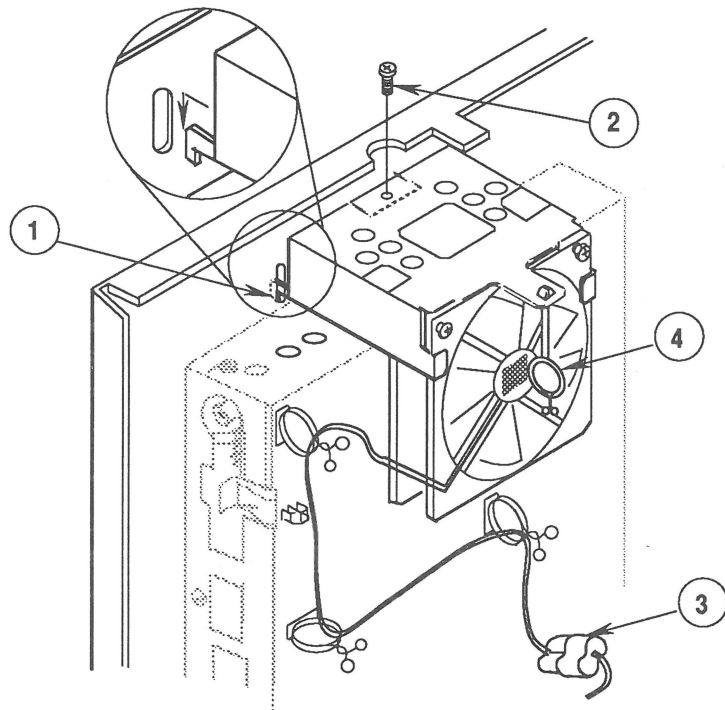

FIGURE 17
2. Replace the fan mounting bracket on the chassis. To do this, insert the two bracket tabs (Figure 17, #1) into the two slots in the chassis, and replace the screw (Figure 17, #2).
3. Reconnect the fan wires at the fan connectors (Figure 17, #3).
4. Replace the fan wires in three cable clamps as shown in Figure 17, and replace the anode wire in the fourth clamp (Figure 17, #4). Close the clamps.